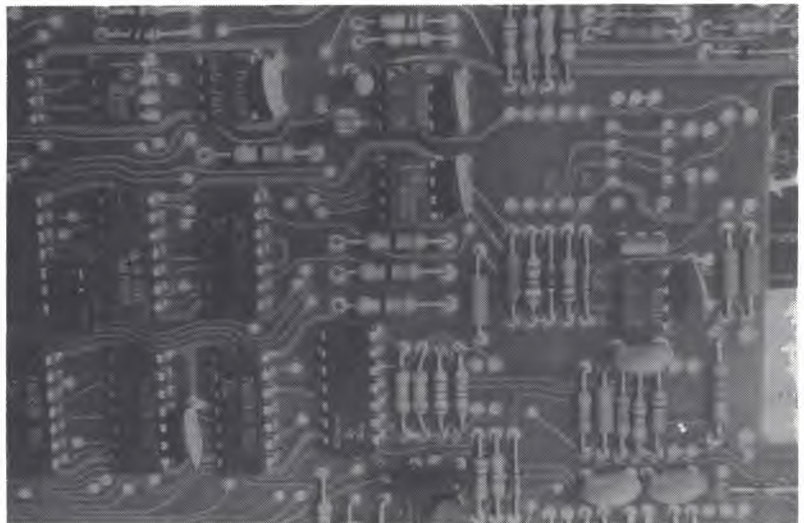

Figure 2: This illustration of a computer board shows the strict method of 'dress' used – it enables rapid identification of circuit sections and components.
3. Start construction by mounting the low profile components like links, resistors and capacitors first, taking care that they are properly 'dressed' or positioned to give your job a professional appearance. Good dressing simply means lining the components up so that wherever possible the codes are in the same direction and read from left to right—say, with the PCB facing towards you. When the PCB is turned clockwise through 90° all other components (normally running away from you) should again read left to right as the component layout suggests. Capacitors should read from the same direction as the resistors. And where components lay side by side, their coding should be oriented where they can be seen. Those components that are polarised must obviously be installed as indicated on the overlay or component layout diagram. Components should be straight and parallel. See figure 2.